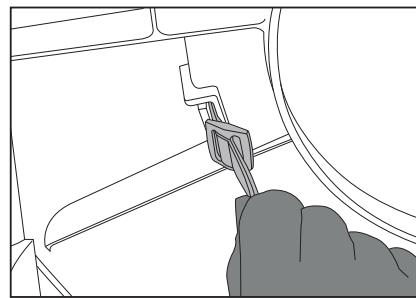

Figure 4.4
- Make sure that the plastic clip passes all the way through the slot, then turn the plastic clip so that it is flat. See Figure 4.4.